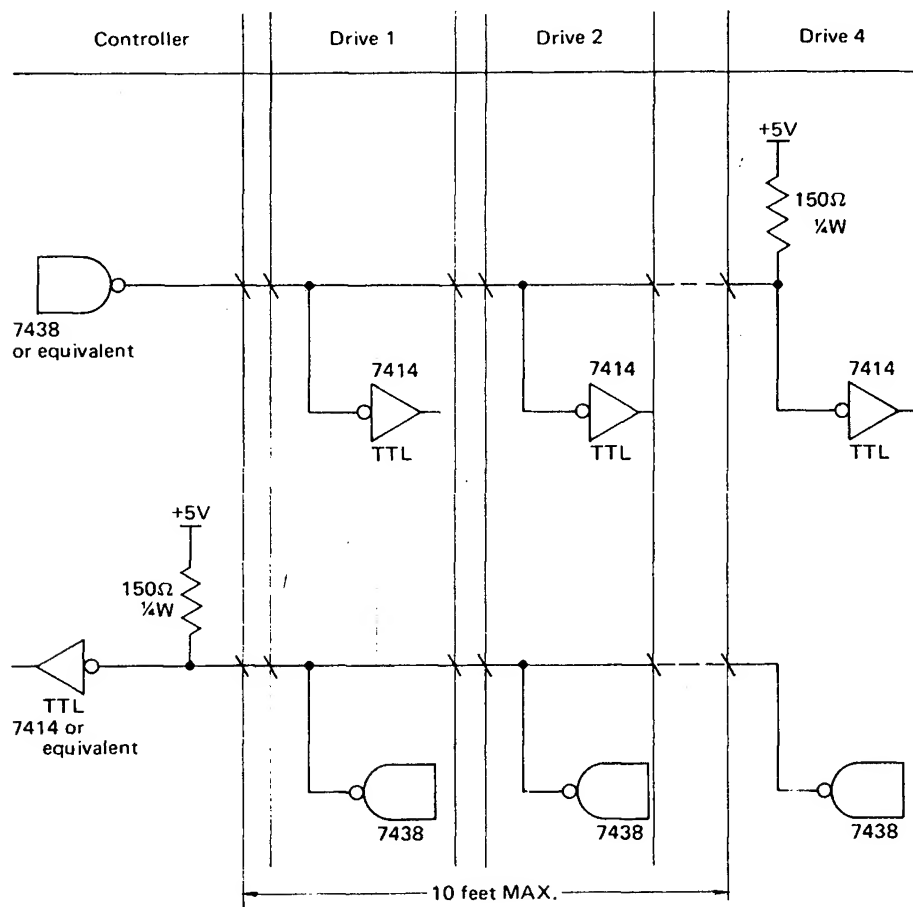

Fig. 3.2 Signal interface circuits
There are seven (7) output lines from the YD-174: five (5) are standard and two (2) are optional. Each line has the following characteristics. Refer to Fig. 3.2 for the interface circuits.
Refer to Fig. 3.2 for the recommended interface circuits of the controller.